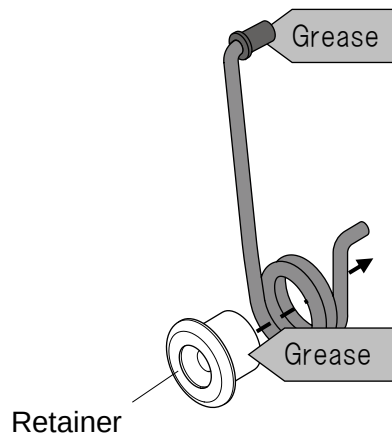

Fig. 13
3. Apply grease to the periphery of the retainer and the guide on spring (Fig. 13).